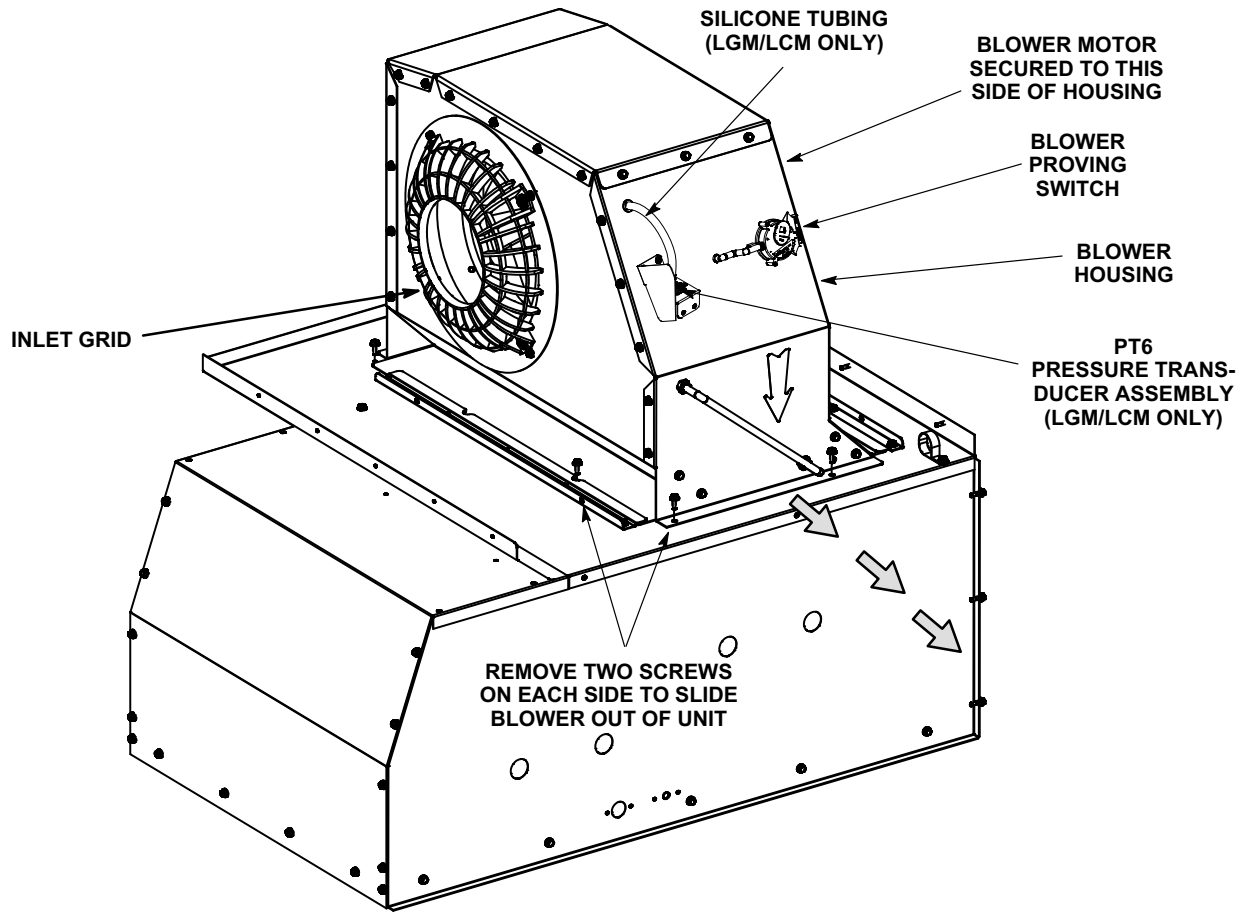
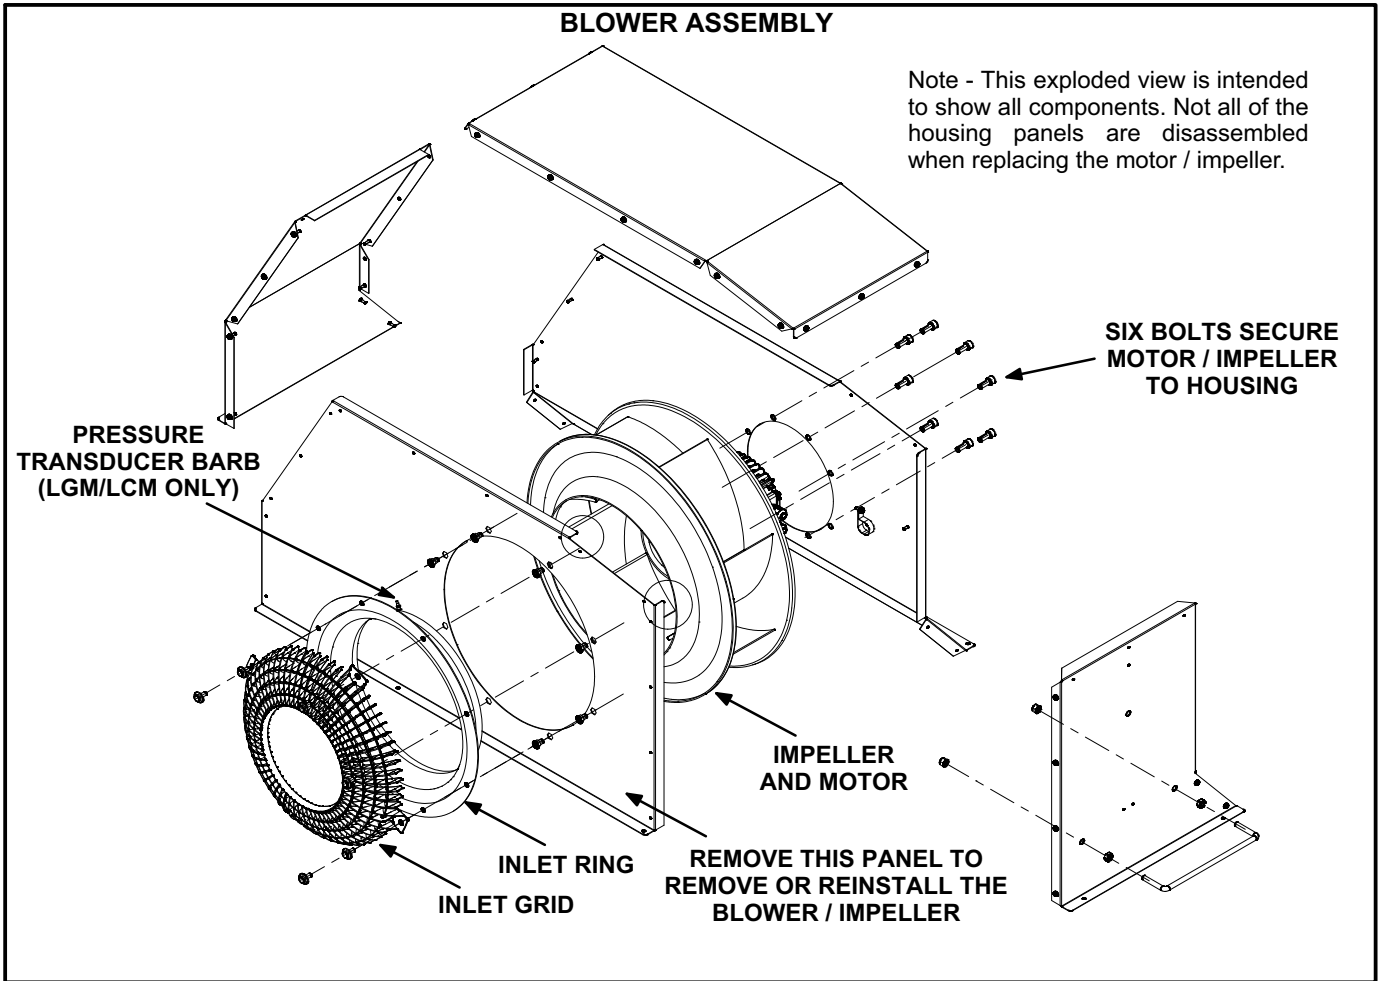

FIGURE 2
FIGURE 3
- 5- Remove four screws securing blower assembly to unit. See figure 2.
- 7- When present, remove PT6 pressure transducer bracket and silicone tubing from housing. See figure 2. If needed, remove the inlet ring to disconnect the tubing from the inlet ring barb. See figure 3. Disconnect the pressure transducer wire connector.
- 10- Install replacement blower assembly flanges into rails on the blower deck in the same manner it was removed. Secure into place using four screws shown in figure 2.